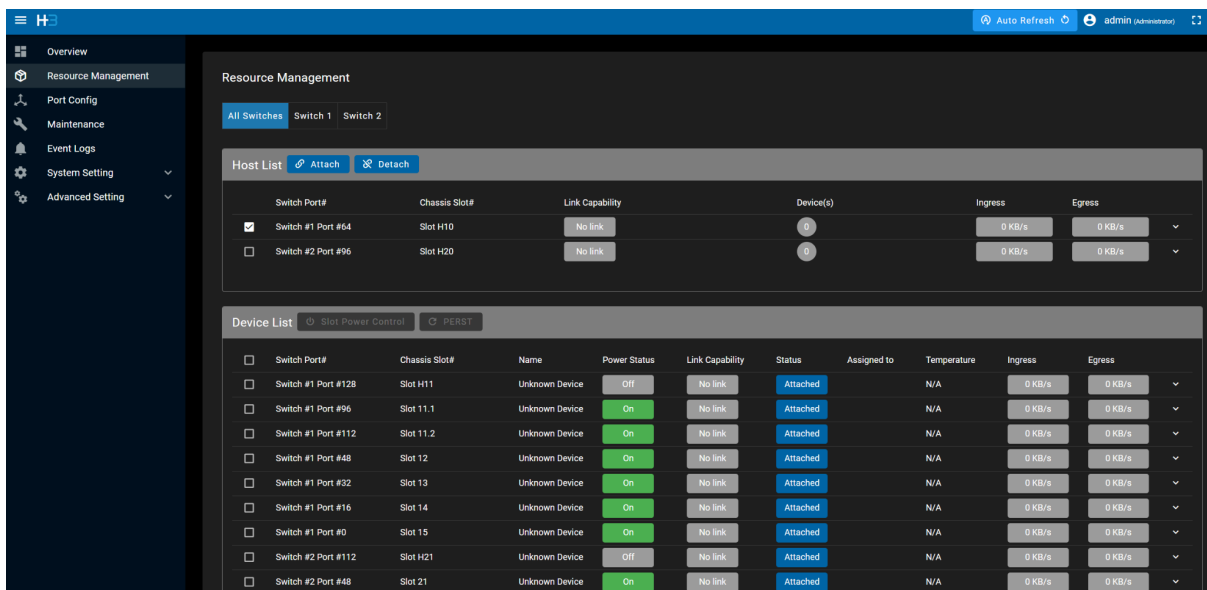

Figure 67. Selecting a Host for GPU Assignment in Resource Management
B. Select the host to which you want to assign GPUs (refer to Figure 67).